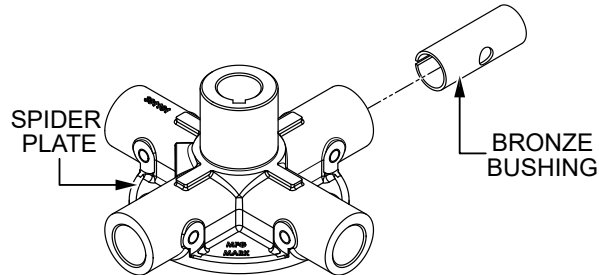

Figure 52. Bronze Bushing
- Should the trowel arm insert (bronze bushing) come out with the trowel arm, remove the bushing from the trowel arm and set it aside in a safe place. If the bushing is retained inside the spider plate (Figure 52), carefully remove the bushing.
- Examine the bronze trowel arm bushing (Figure 52) and clean it if necessary. Replace the bushing if it is out-of-round or worn.